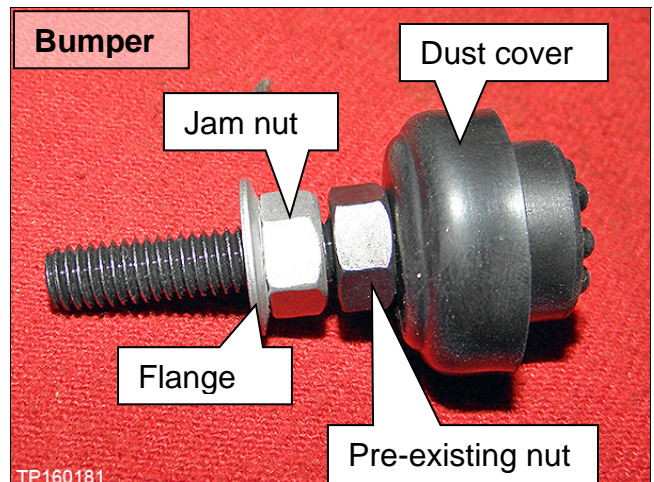

Figure 9
8. Install jam nuts onto the three bumpers with the flange facing away from the pre-existing nut (see Figure 9).
(1) Available as a service part to replace worn bumpers for those vehicles that have already had the step kits installed.
(2) See Figure 9 for illustration of bumper.